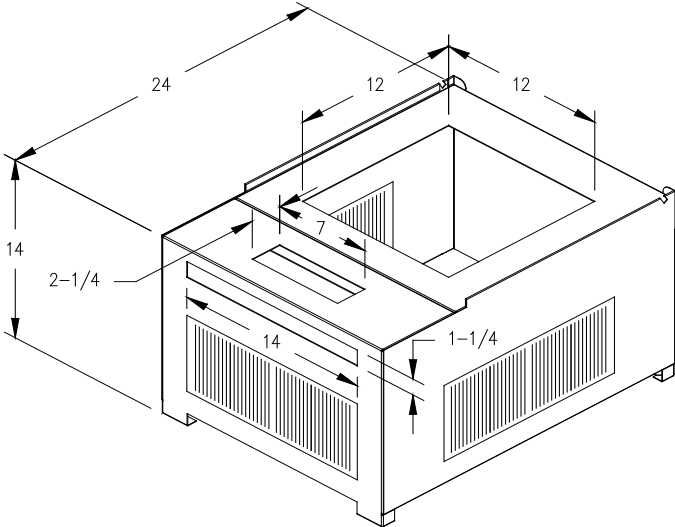

Figure 1C.
3. This furnace may be installed on a combustible floor when utilizing either the No. V70-BASE counterflow floor base or VE113S / VE213T coil cabinet for below the floor duct systems, or the cottage base for floor level air distribution. See Figure 1A for description of Combustible Floor Base and Figure 1C for Cottage Base.
The VCOT-BASE cottage base (Figure 1C) is required for a freestanding cottage base installation. The cottage base allows the two sides and rear to have an 8" x 12" register installed. **IMPORTANT: All joints and seams of supply ducts must be sealed with a sealing method suitable to the application conditions and temperatures (I.E. High temperature silicone and/or aluminum tape).** Refer to assembly and installation instructions included with cottage base for additional information.